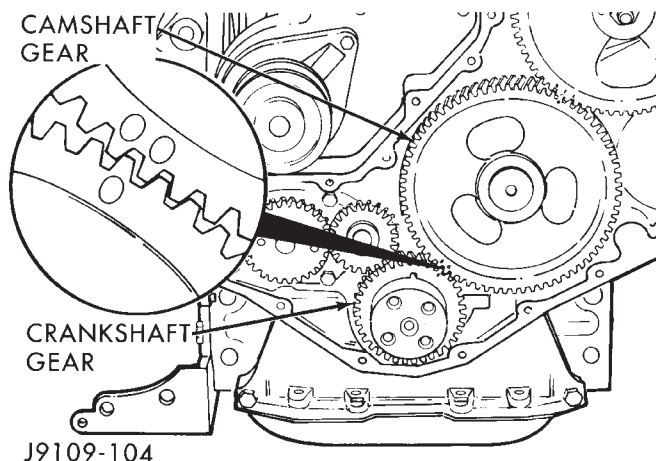

Fig. 58 Camshaft/Crankshaft Gear Alignment
(1) Install a new gasket and the gear housing. Tighten the bolts to 24 N·m (18 ft. lbs.) torque.
(2) Install the camshaft. Make sure the alignment marks on the camshaft and crankshaft gears are aligned (Fig. 58).
(3) If a new housing is installed, the timing pin assembly must be accurately located.
(4) Install the following: